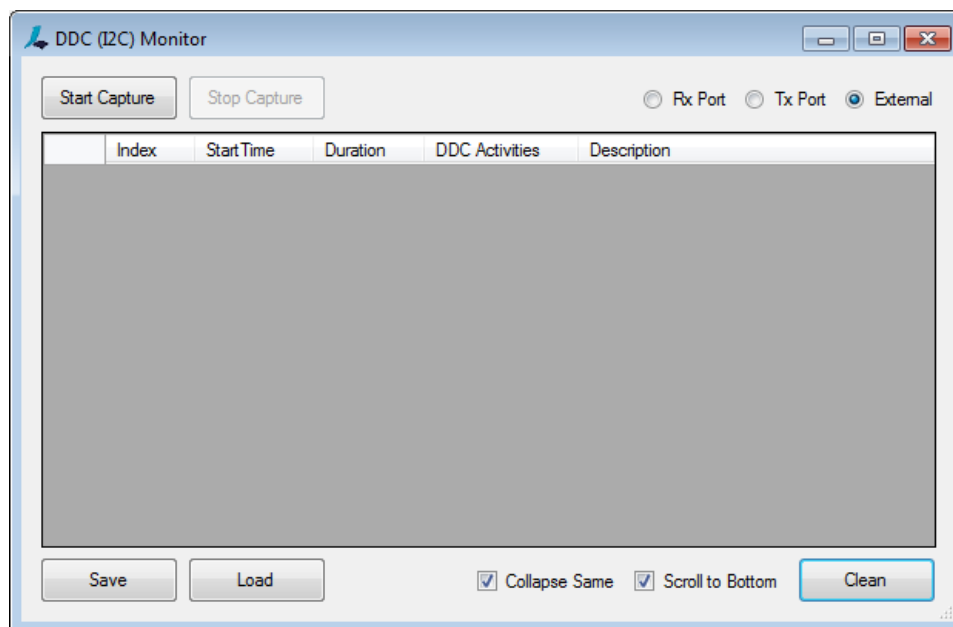

Figure 4.17. DDC Monitor Test Window
1. From the AVG software main window of your test computer (Figure 3.16), click DDC (I2C) Activity Monitor. The DDC (I2C) Monitor window appears (Figure 4.17).